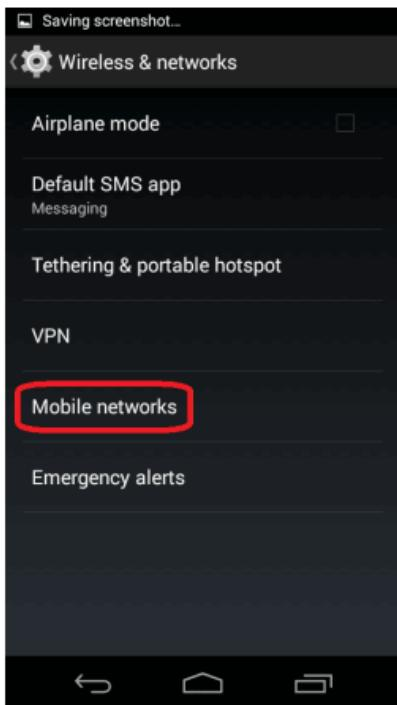
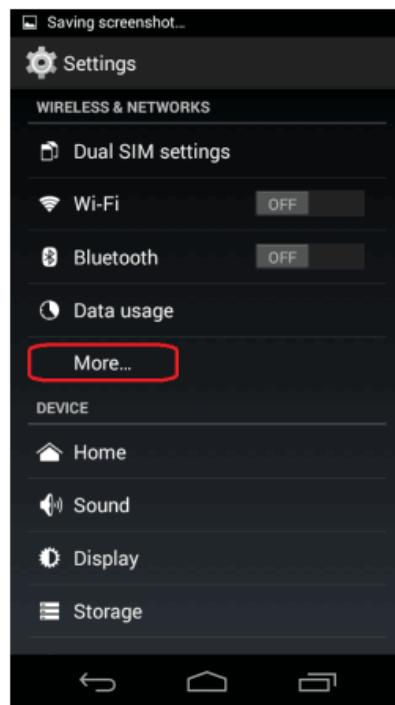

Figure 2
Figure 3
- Under Wireless & Networks, go to **mobile networks** (Figure 2). Click **more settings** to get this option. (Figure 3).